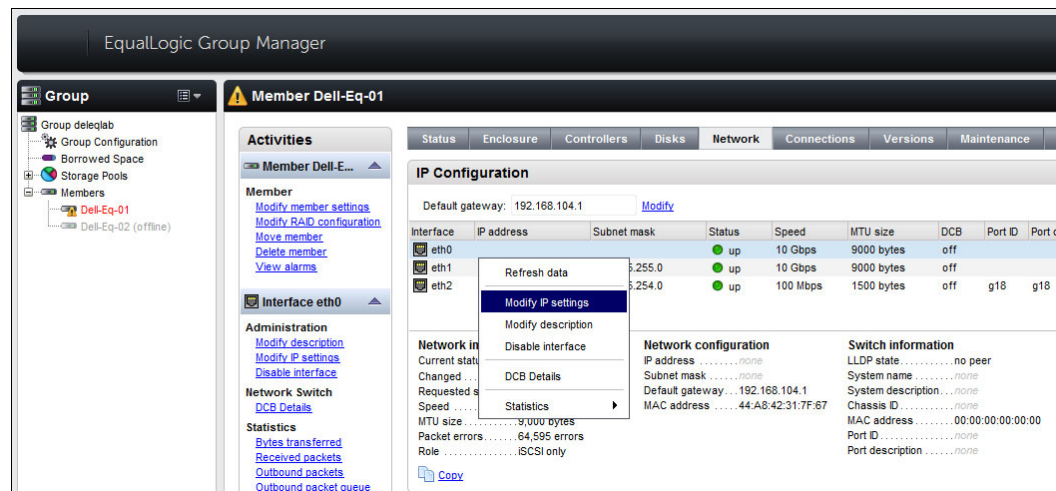

Figure 14-4 Modifying the IP settings of the Dell controller
2. Right-click the Ethernet interface and select **Modify IP settings**, as shown in Figure 14-4.